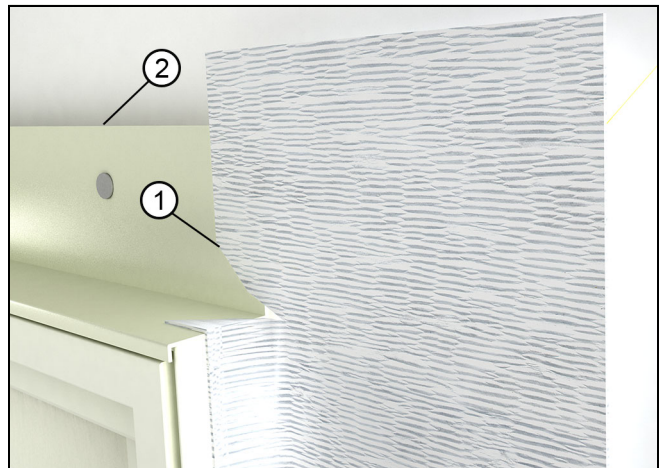

Figure 275
6. Lap vertical strips of adhesive flashing tape onto the window and out over the WRB. Make small diagonal cuts at the head jamb as in Figure 275 to allow the membrane to fold back onto the exterior and frame.